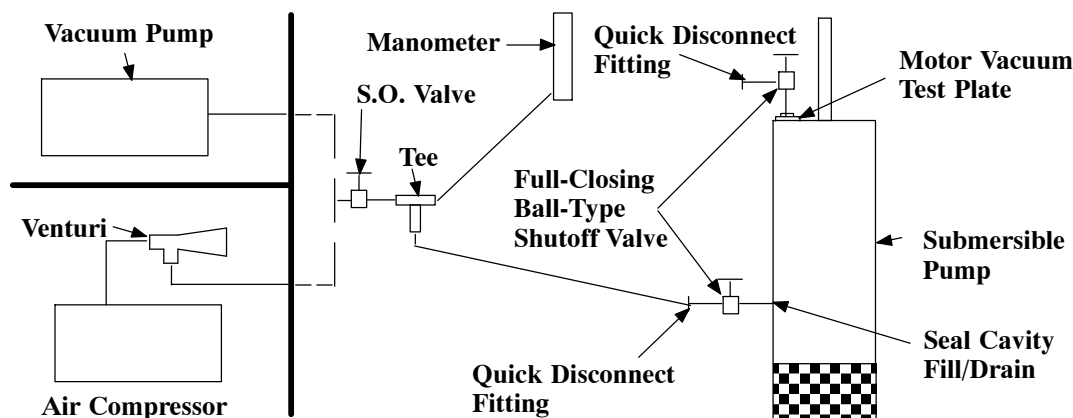

Figure C-6. Vacuum Test System
It is recommended that a vacuum pump be used to draw the vacuum on the cavities. If a vacuum pump is not available, a compressor/venturi system may be used, see Figure C-6.
See Figure C-6 and connect the vacuum pump or compressor/venturi system directly to the pump at the hole for the seal cavity drain plug (47).
Connect the vacuum pump or compressor/venturi system to the pump as shown in Figure C-6.